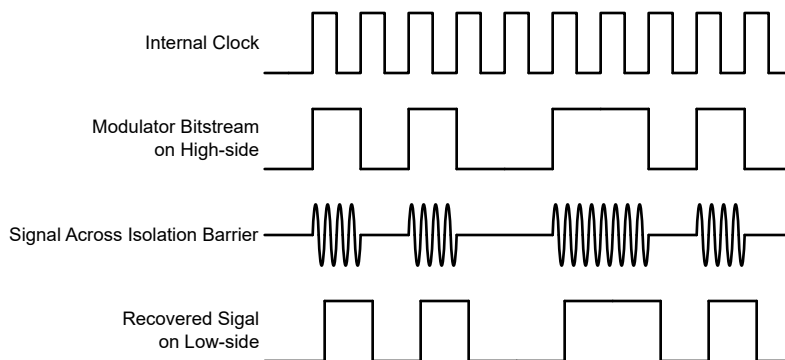

Figure 8-1. OOK-Based Modulation Scheme
The AMC1311 uses an on-off keying (OOK) modulation scheme, as shown in Figure 8-1, to transmit the modulator output bitstream across the SiO₂-based isolation barrier. The transmit driver (TX) shown in the Functional Block Diagram transmits an internally-generated, high-frequency carrier across the isolation barrier to represent a digital *one* and does not send a signal to represent a digital *zero*. The nominal frequency of the carrier used inside the AMC1311 is 480 MHz.